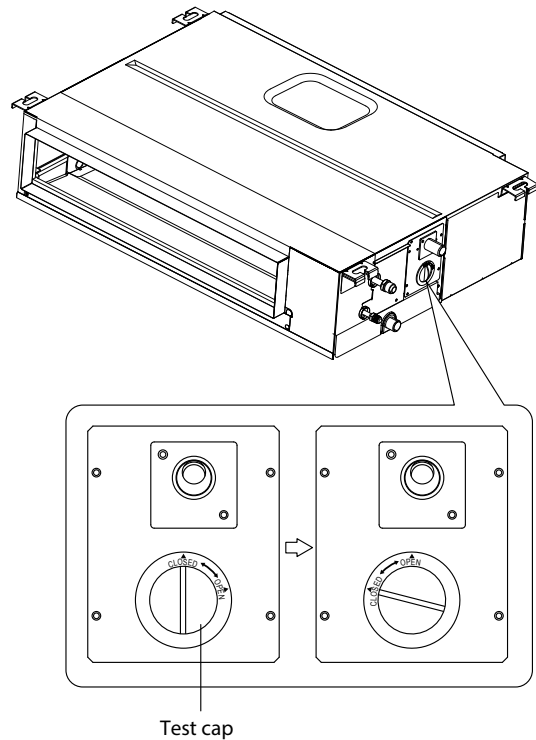

**Fig. 6.6**
3. Place flare nuts on both ends of pipe. Make sure they are facing in the right direction, because you can't put them on or change their direction after flaring. See Fig. 6.6